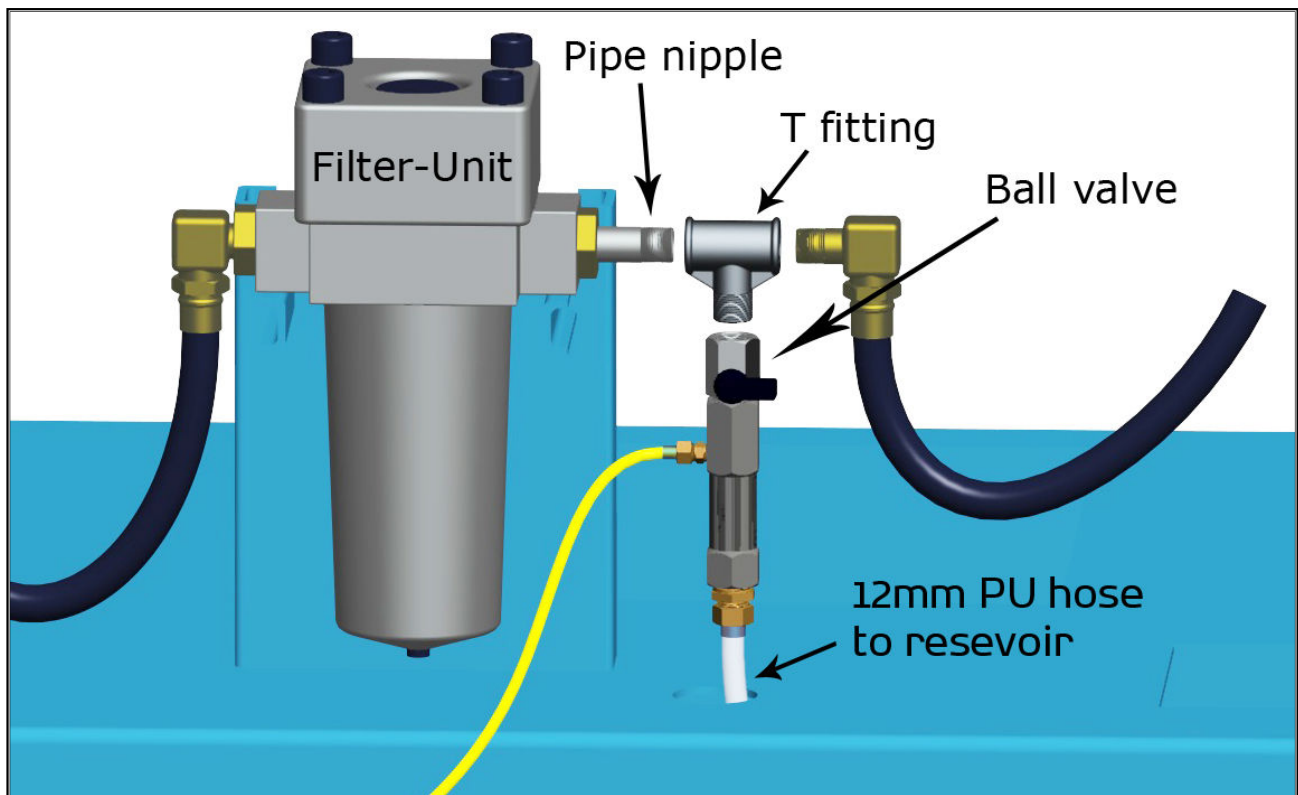
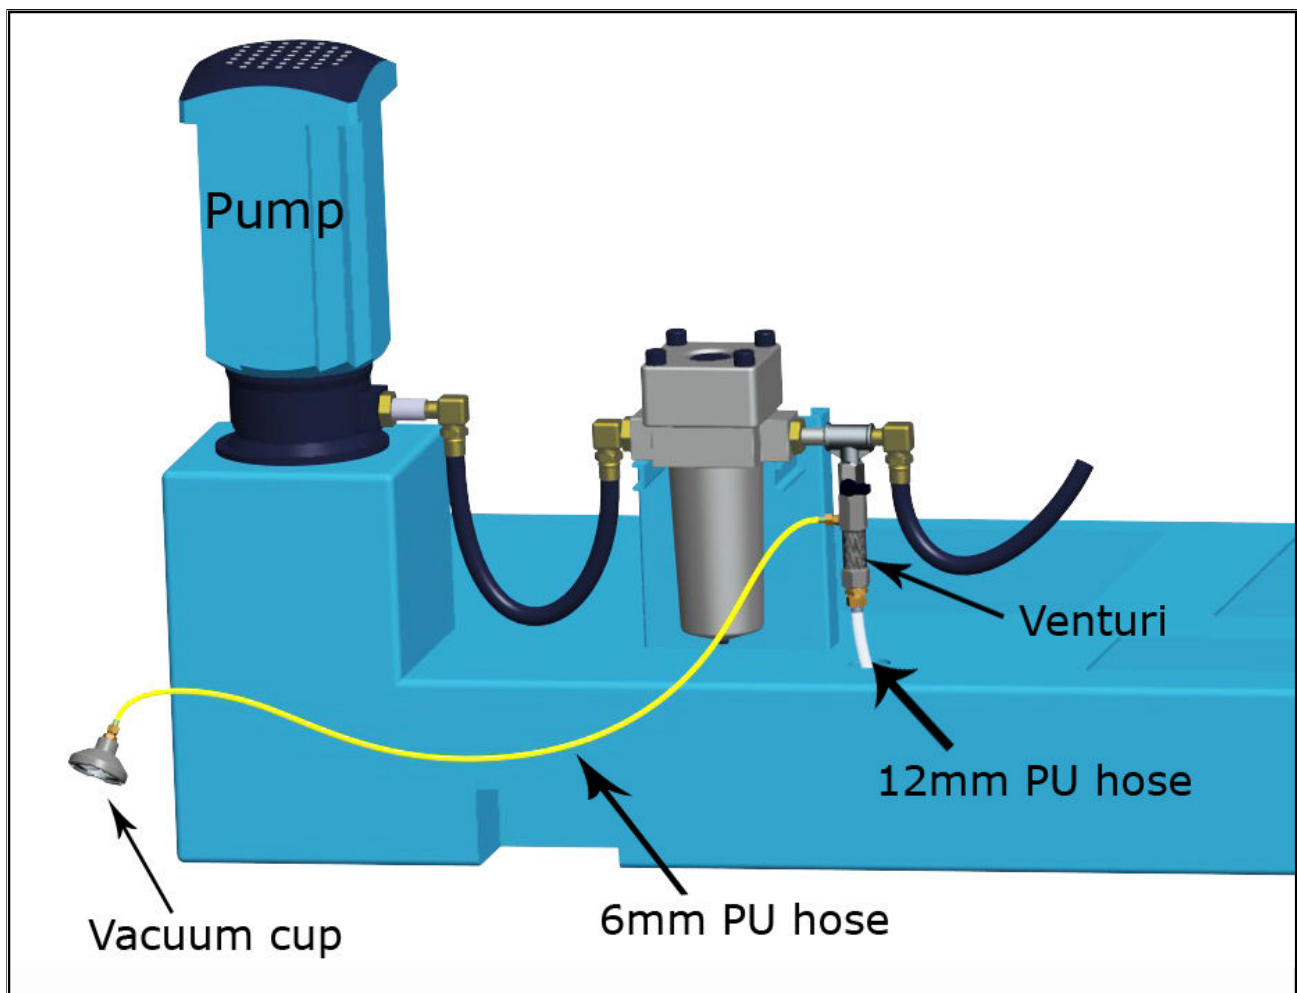

Fig. 3
Fig. 4
NOTE: On machine tools where the coolant pump is equipped with a filter-unit the Wogaard Coolant Saver™ should be installed **after** the filter-unit (as shown in figure 3 and 4).
4. Screw on the suitable T fitting or pipe nipple onto the coolant pump or filter-unit, as shown in the example below (Fig 3).
In this particular example (Fig 3), the pipe nipple is screwed into the filter-unit, and the T fitting is then screwed onto the pipe nipple.
5. Screw the venturi-unit and ball valve onto the vertical branch of the T fitting as shown above (Fig 3).
- Place the vacuum cup on the bottom surface of the chip container. One end of a 6mm PU hose is attached to the vacuum cup. The other must be inserted into the side port on the venturi-unity and the thumb-screw is tightened (see fig. 4 below).
- Connect the hose supplying coolant or cutting oil to the machine, to the end of the T fitting as shown in Fig. 3 and Fig. 4.